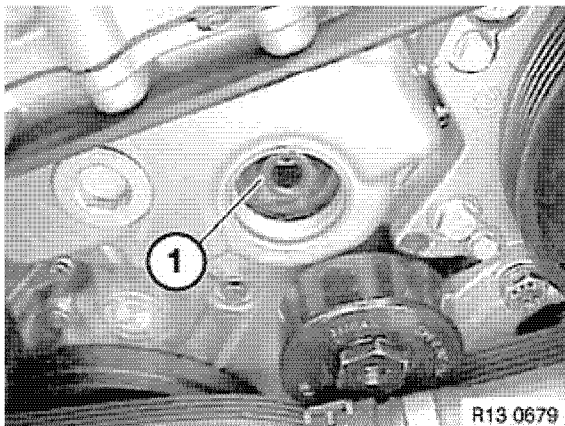

Figure 6-33
5. Remove special tool OEM No. 13 5 191 and install nut (1, **Figure 6-33**). Tighten nut to 65 N·m (48 ft-lb).